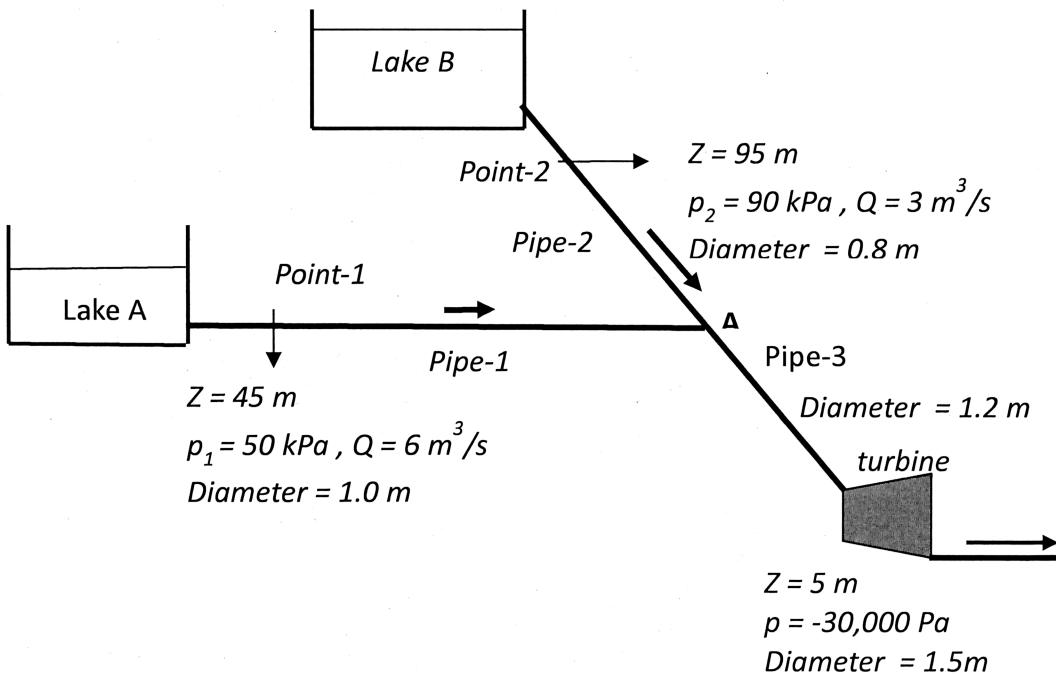

Figure 2
- (b) Figure 2 shows water from Lake A and Lake B merge to feed a hydraulic turbine downstream. At point-1 below Lake A, water flows along a 1.0 m diameter pipe at $6 \text{ m}^3/\text{s}$ and the gauge pressure p_1 is 50 kPa taken at an elevation 45 m. The total head loss along pipe-1 is 8 m.